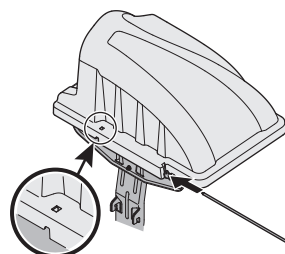
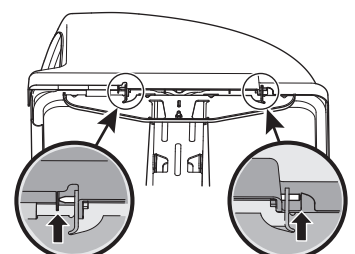

Figure 16
Figure 17
6. Slide the hinge pin (711-04988) into the hole located on the mounting tab, as in Figure 16. Use the cut-out window (See inset, Figure 16) to line up the hinge pin on the other side and push pin all the way in until it reaches the end-stop. At this point the pin clips into place and is secured by a tab in the bagger cover. See Figure 17.